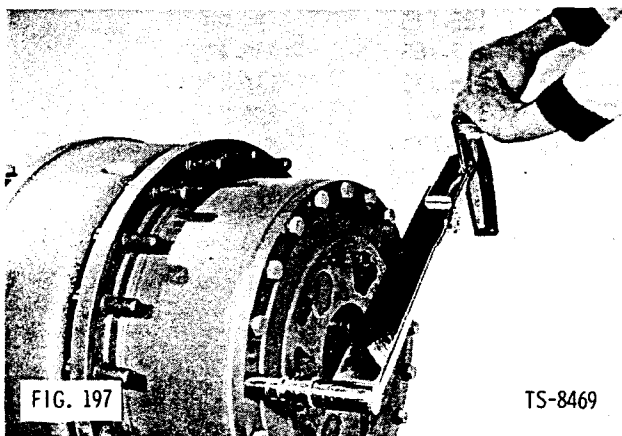

FIG. 197
39. Make sure "O" ring is properly installed on planet carrier. Install planet carrier assembly on hub with bolts and lock washers. Tighten bolts to specified torque (Fig. 197).